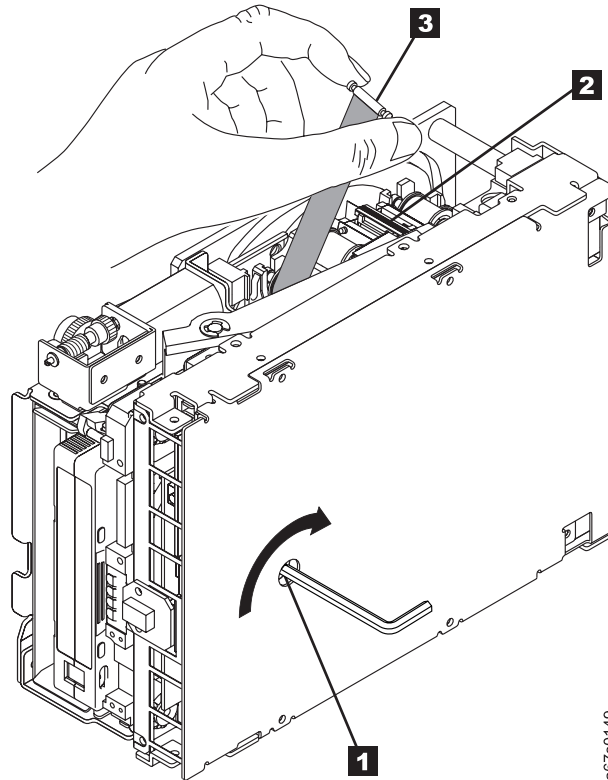

Figure 142. Rewinding the leader pin into the cartridge
- ___ 4. Place the cartridge drive so that the front faces you, then tilt it on its left side (see Figure 142).
- ___ 5. At the bottom of the drive, locate the access hole (**1** in Figure 142).
- ___ 7. With clean needle-nose pliers, grasp the end of the leader pin and pull it out of the cartridge so that you can grip it with your fingers (see **3** in Figure 142).